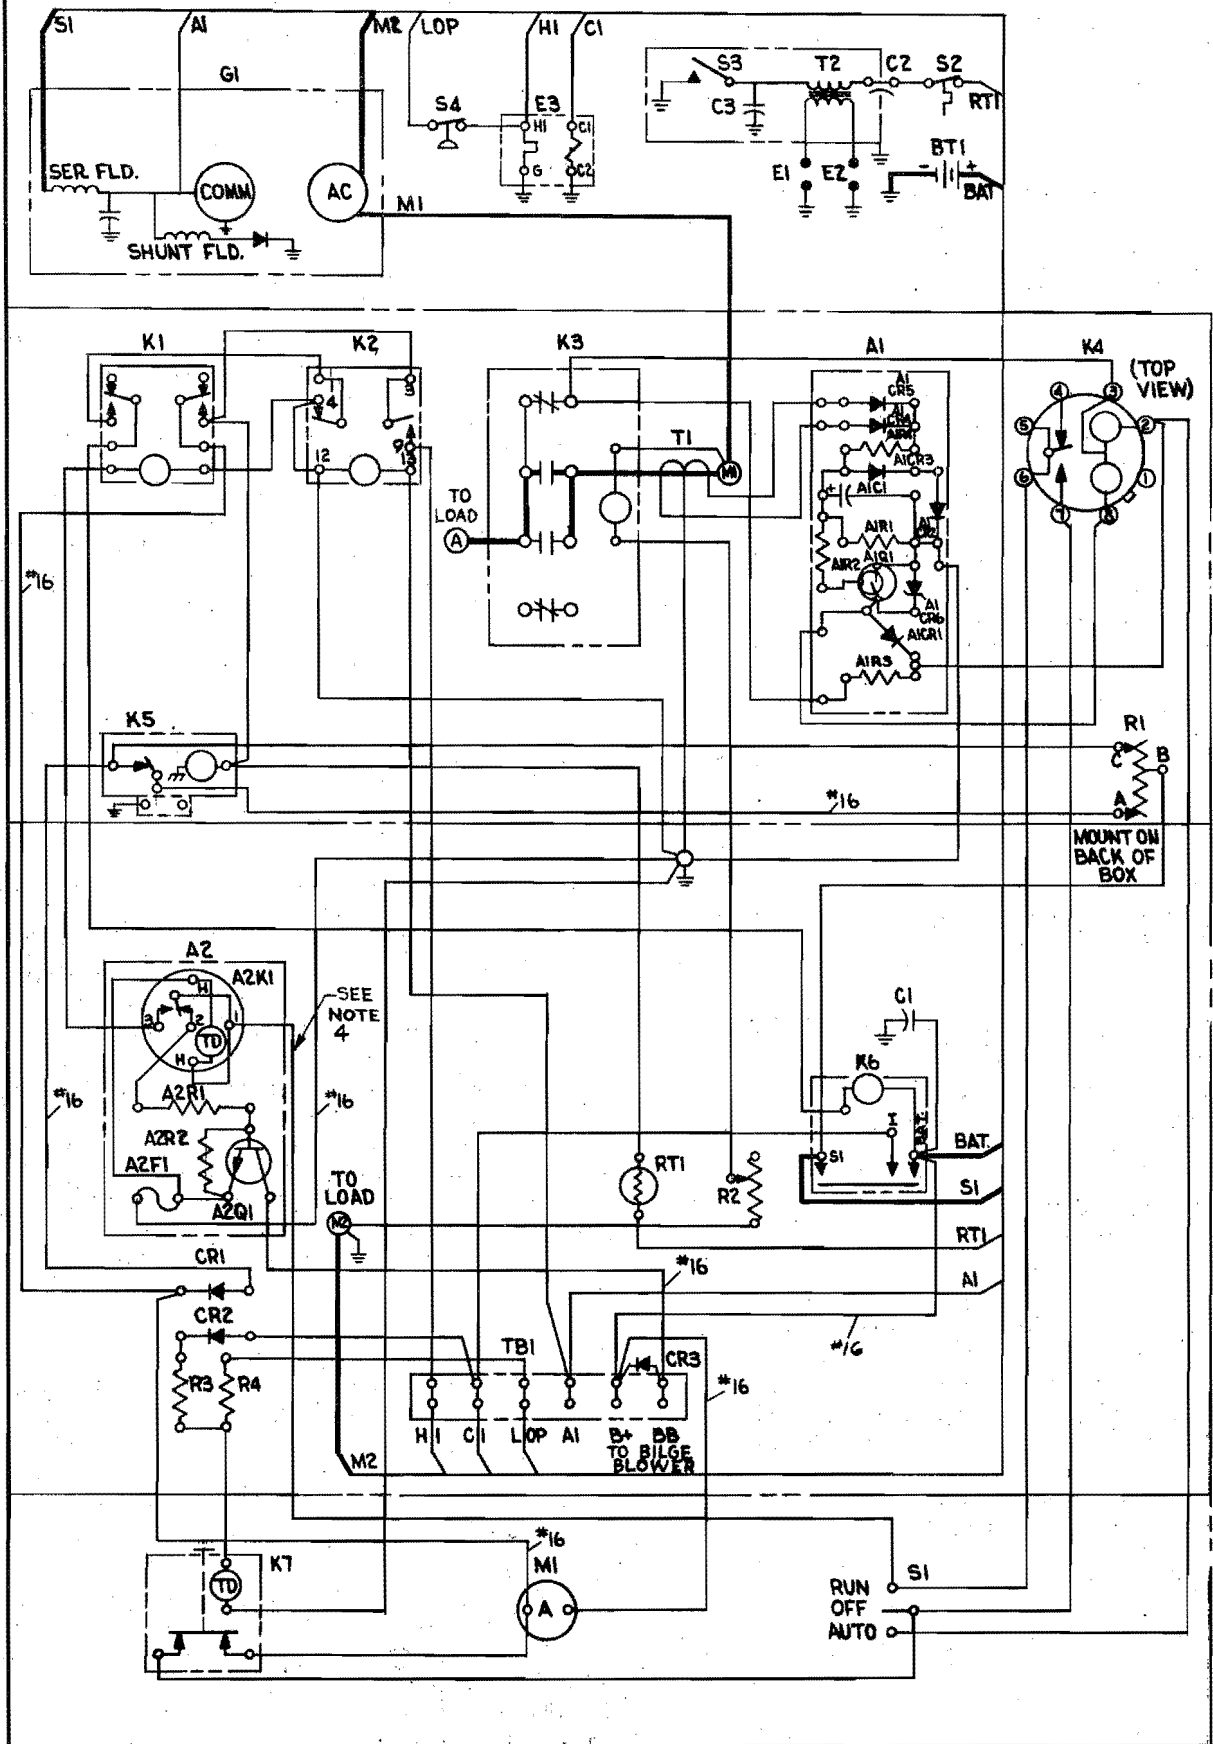

FIGURE 33.
Control-O-Matic operation is explained on the following pages. Accompanying the description of each function is a schematic drawing, with current flow shown as bold lines on the drawing. A pictorial wiring diagram appears as Figure 33 on the next page. Throughout the text are references to various components (electrical devices), terminal positions, and current flow. When reading through the text, follow current flow on the schematics and locate relative positions of electrical devices and terminal positions on Figure 33. This will provide a more comprehensive understanding of the operation of the Control-O-Matic.
- b. Disable the bilge blower control Relay A₂K₁ by moving the lead wire from Terminal 1 to Terminal 3, Figure 33. If plant cranks with the bilge blower control disabled, the problem is in the bilge blower control circuit. Refer to Paragraph 5.